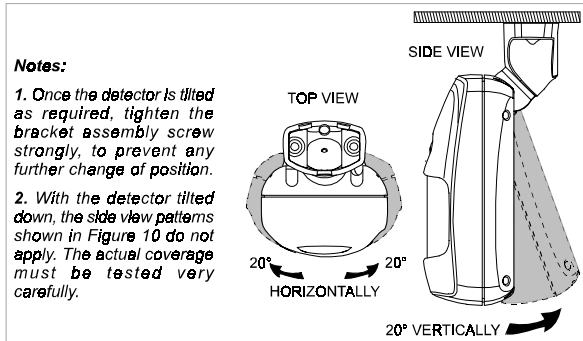

Figure 8. Tilt/Swivel Limits
- G. Tilt down or swivel the detector to face the desired direction. Figure 8 shows the tilt/swivel possibilities.